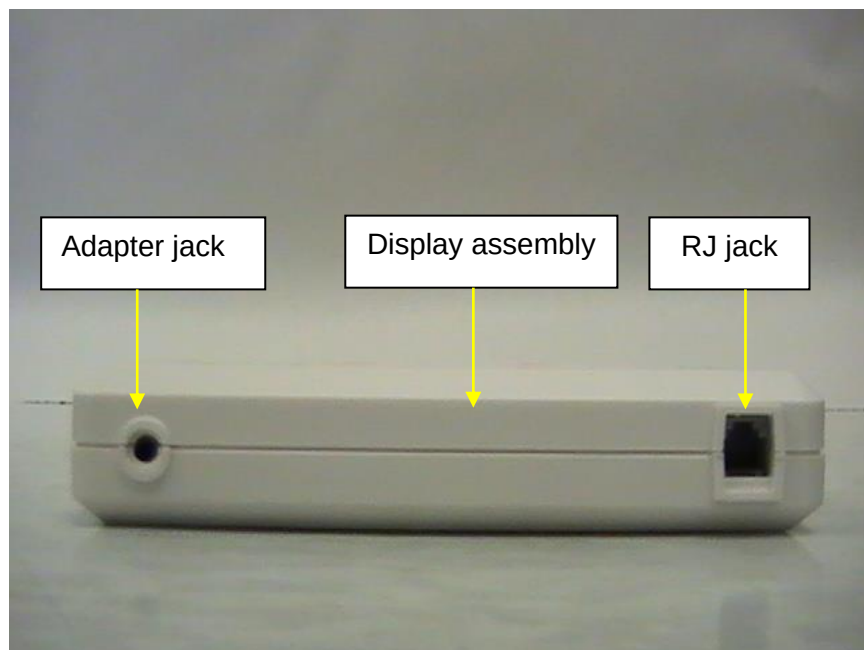

Figure 2
2. Connect the cable to the display assembly RJ jack (see Figures 2 & 3 on pages 8 & 9).
3. Connect the optional AC adapter into adapter jack on the display assembly (see Figure 2 on page 8).